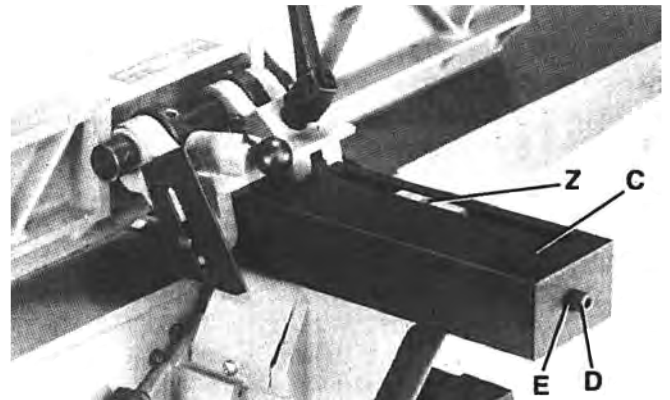
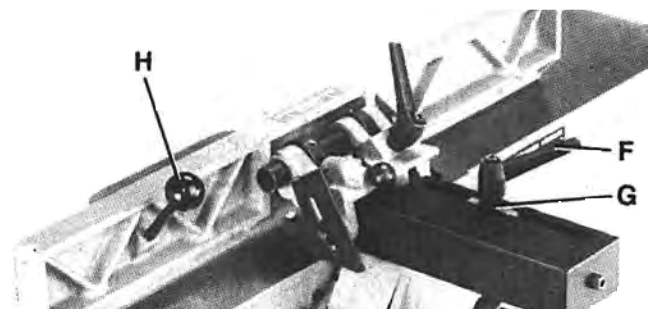

FIGURE 17
FIGURE 18
2. Assemble rear cutterhead guard (C) Fig. 17, to end of hexagon rod using the 5/8" long screw (D) and washer (E).
3. Thread fence locking handle assembly (F) Fig. 18, and flat washer (G) into hole (Z) Fig. 17. Lock handle (F) Fig. 18, is spring-loaded and can be repositioned by pulling out the handle and repositioning it onto the serrated nut located under the handle.
4. Thread face tilting handle (H) Fig. 18, to threaded hole in back of fence as shown.